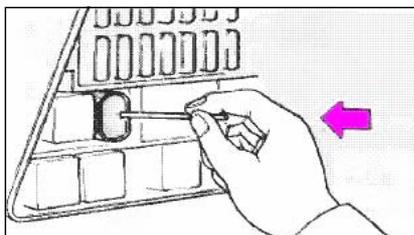

Fig.114
2. Insert a long thin object into the circuit breaker until a 'Click' is heard (Fig.114)